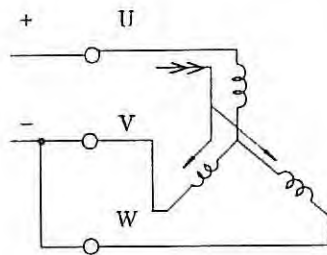

Fig. 2
- ① connect V & W of motor power line. (see Fig. 2)
- ② excite motor at rated DC current from U to V & W. (U: +, V & W: -)
- ③ supply DC 5V to the pulse coder, and check signals of C1 - C8. Correct pattern is as follows.